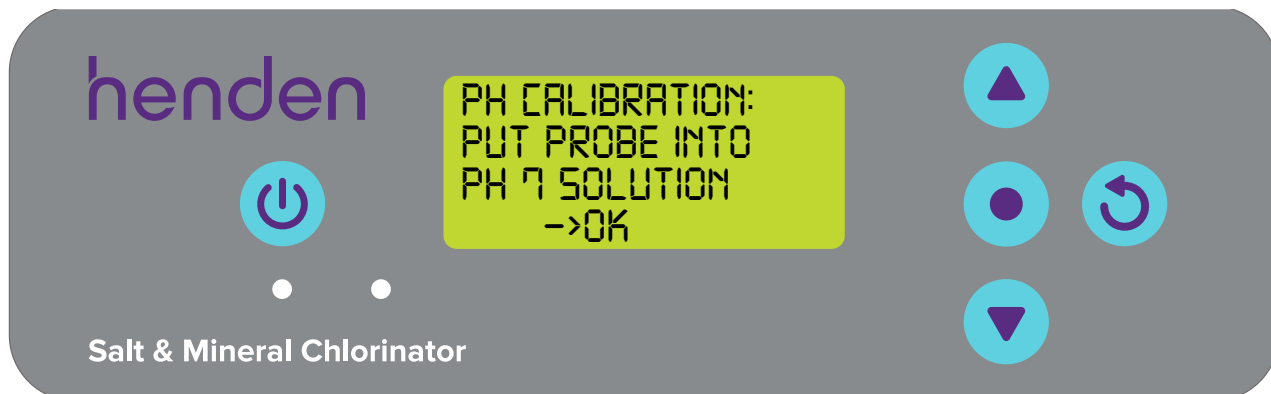

Figure 6.7
- If you've chosen to use the pH probe, the next screen will instruct you to put the pH probe into pH 7 solution (ref Figure 6.7)